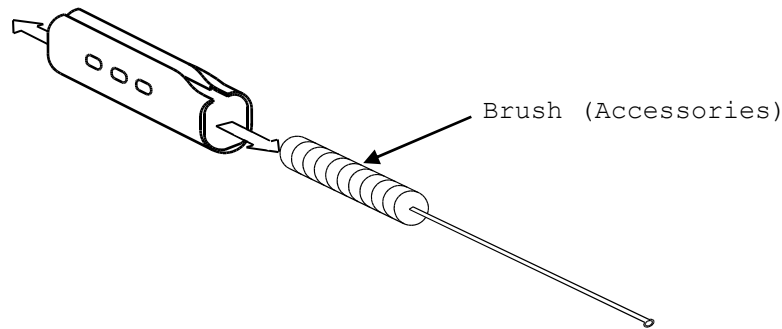
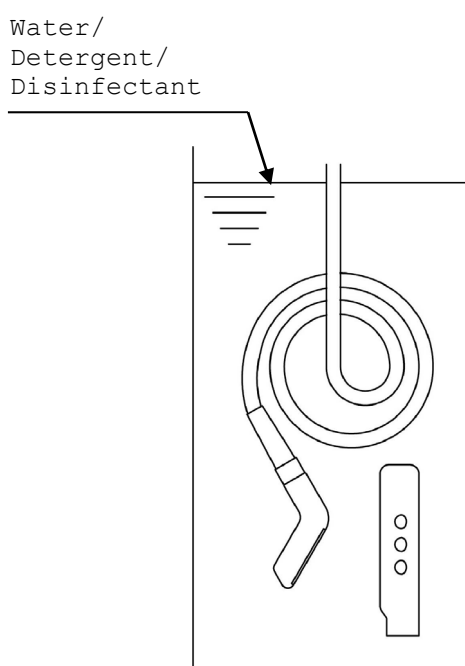

Fig.5 Cleaning for the inside of the Handle
Fig.6 Immersion of the Probe and the Handle
- 2) Immerse the immersible part of the probe without connector into the diluted detergent solution (see Figure 6). Wipe the immersible part of the probe under the surface of the detergent solution with a soft cloth to remove all visible soil. Be sure that all grooves of the probe are implemented during the cleaning process. The inside of the handle should be cleaned with the supplied brush in detergent solution (Fig.5).
- 5) Rinse the immersible part of the probe with running tap water for 1 minute. (alternatively: immerse the immersible part of the probe in a tray filled with deionized water/tap water (see Fig.6) for 5 min.)
- 3) Immerse the immersible part of the probe into the disinfectant (see Fig. 6). Set a clock to insure the recommended contact time which is 5 minutes.
- 4) Rinse the immersible part of the probe with deionized water for 1 minute. (alternatively: immerse the immersible part of the probe in a tray filled with deionized water (see Fig.6) for 5 min.)